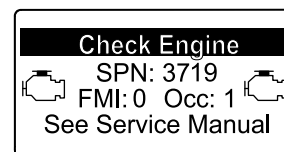

Figure 56
- Engine warning SPN 3719, FMI 0 (Figure 56)